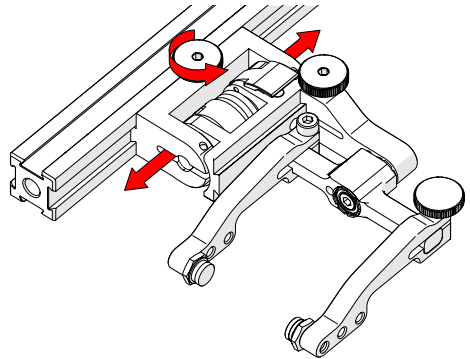

Fig. 168 - Adjust on frame bar
2. Use the probe holder adjustment knob to position the probe holder along the frame bar (Fig. 168).